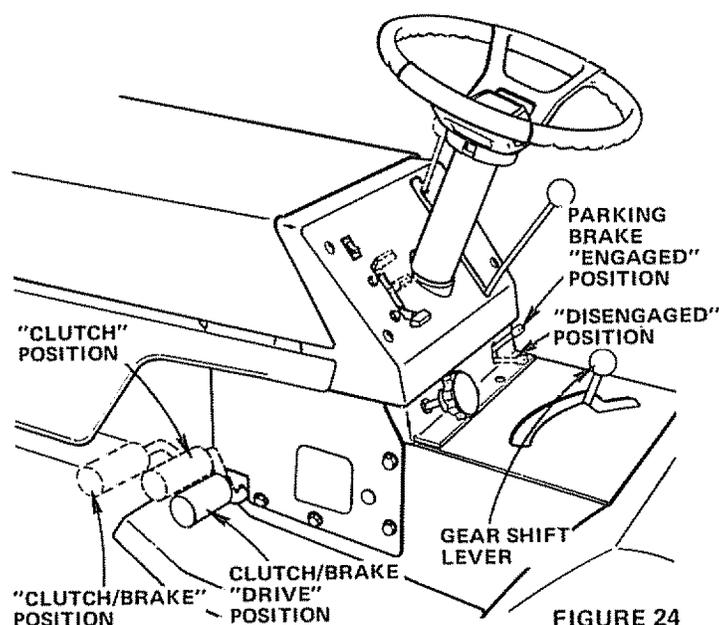

FIGURE 24
3. Push Clutch-Brake Pedal down firmly to "DISENGAGE" Parking Brake (Fig. 24).
4. Move Gear Shift Lever to "1ST" Gear (Fig. 24).
NOTE: ALWAYS OPERATE ENGINE AT FULL THROTTLE WHEN MOWING TO ASSURE BETTER MOWING PERFORMANCE, LONG ENGINE LIFE AND PROPER DISCHARGE OF CUT MATERIAL. REGULATE GROUND SPEED BY SELECTING A LOW ENOUGH GEAR (FIG. 24) TO GIVE THE MOWER CUTTING PERFORMANCE PLUS QUALITY OF CUT DESIRED.
3. Place Parking Brake in "ENGAGED" position. Raise Parking Brake Lever and hold in "ENGAGED" position (Fig. 24). Release Clutch-Brake Pedal.
For pushing or towing your tractor, place Gear Shift Lever in "NEUTRAL" position (Fig. 24). Push Clutch-Brake Pedal down firmly to "DISENGAGE" Parking Brake (Fig. 24). NOTE: DO NOT TOW YOUR TRACTOR FASTER THAN SIX MILES PER HOUR.